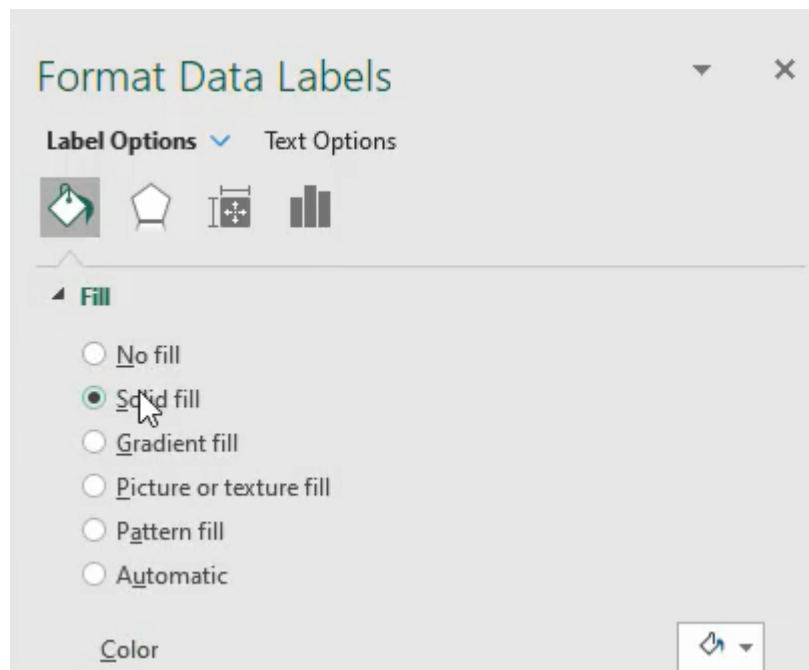

Figure 37.26
3. Choose a white color. (See **Figure 37.26**)